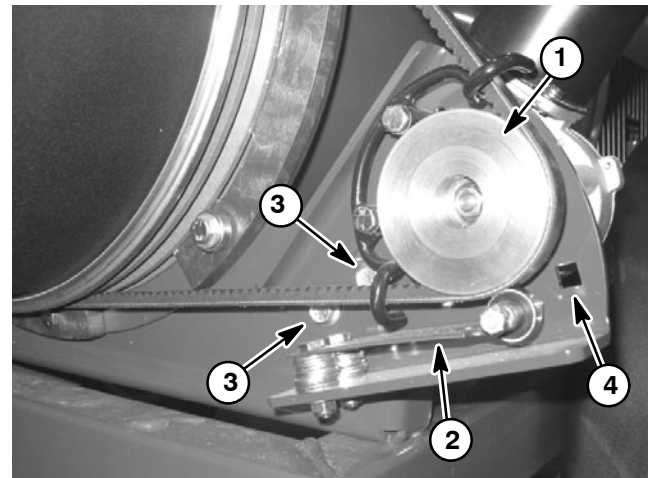

Figure 20
1. Position nozzle motor to bracket and secure with three (3) cap screws.
4. Place v-belt in nozzle pulley, route behind belt guard (item 13) and install belt on motor pulley.
5. With a 3/8 in. drive torque wrench, pivot the motor bracket from **200 to 230 in-lb (23 to 25 N-m)** to set v-belt tension (Fig. 20). **Do not over tension belt.** Hold bracket with the torque wrench and tighten two (2) flange head screws and flange nuts to secure belt adjustment and nozzle motor bracket.
7. Position leaf spring with bearing and flat washers (item 5) to bracket. Make sure that five (5) washers are placed between spring and bracket at each mounting hole. The bearing on the leaf spring should be centered on the outside of the v-belt. Secure leaf spring to motor bracket with two (2) cap screws (item 21) and flange nuts (item 22).